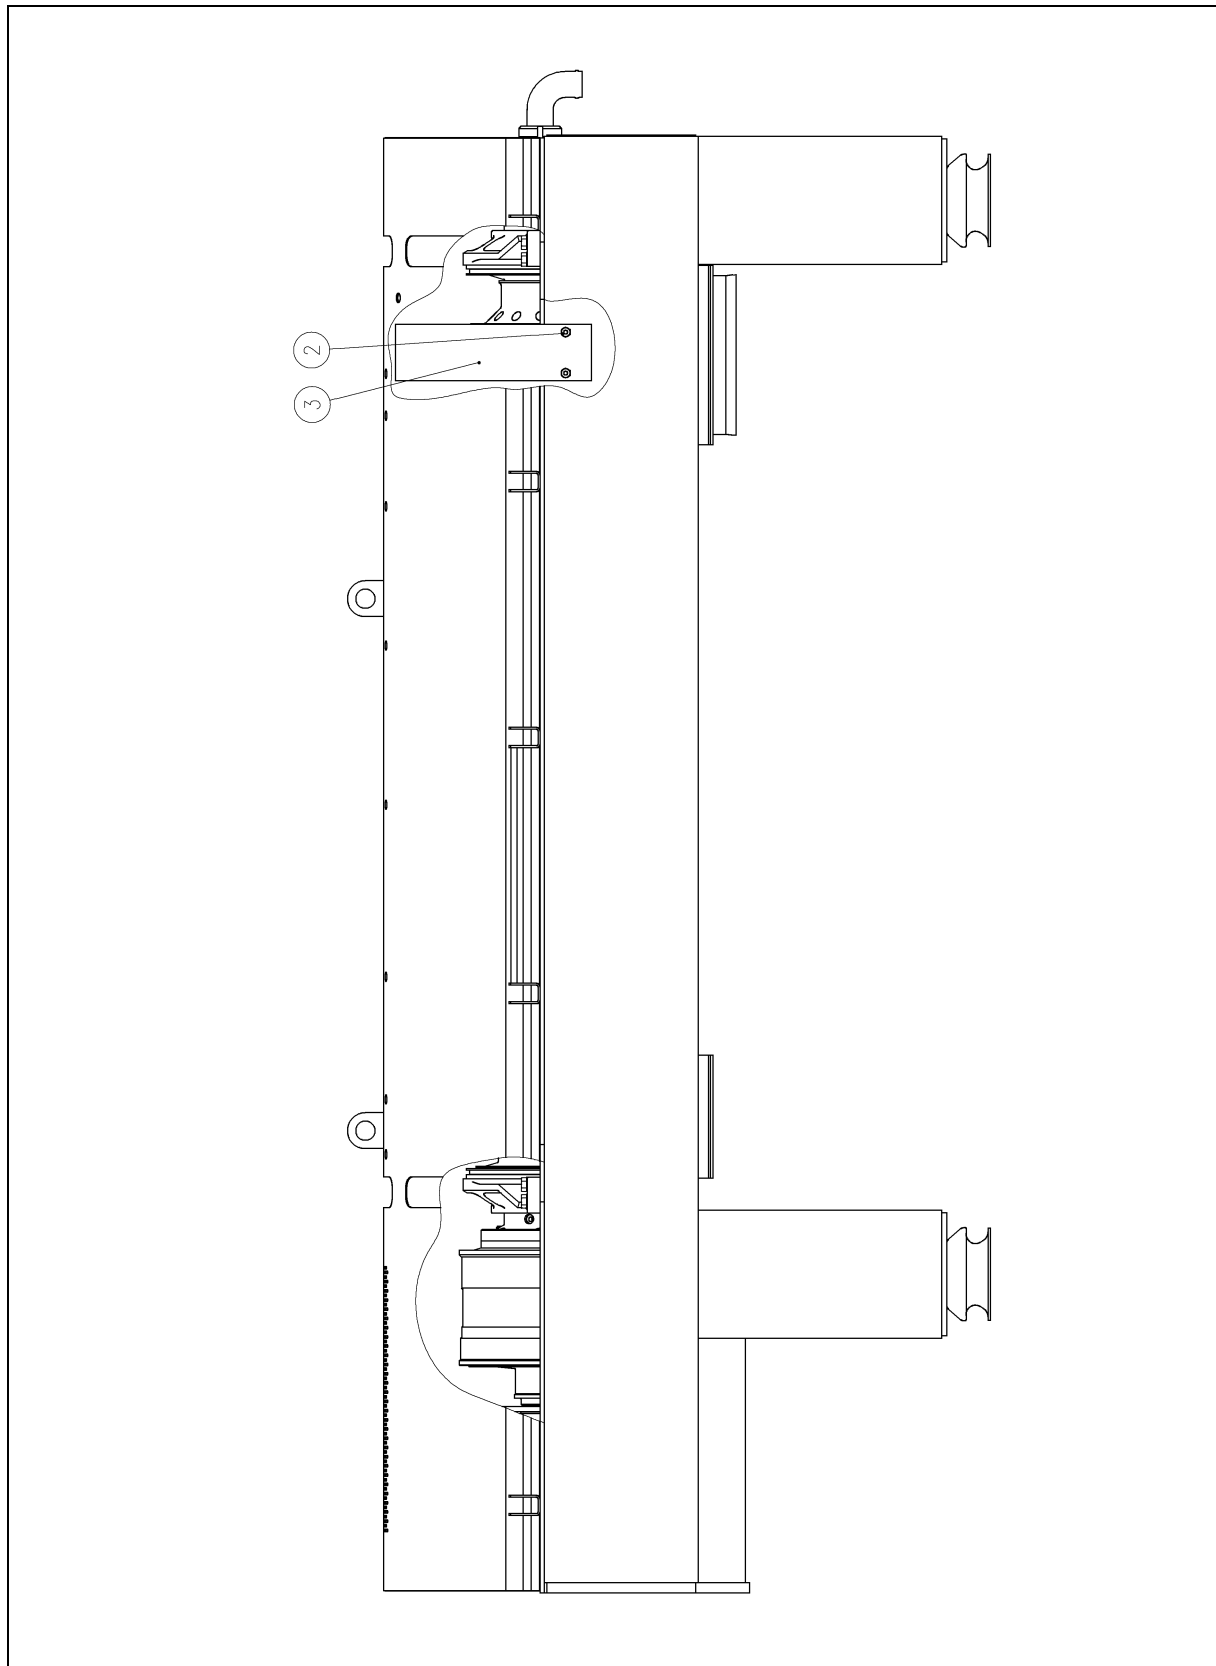

Figure 4.1.1
4.1.1 Remove Bowl (Figs. 4.1.1 and 4.1.2)
4.1.2 Install Bowl (Figs. 4.1.1 and 4.1.2)